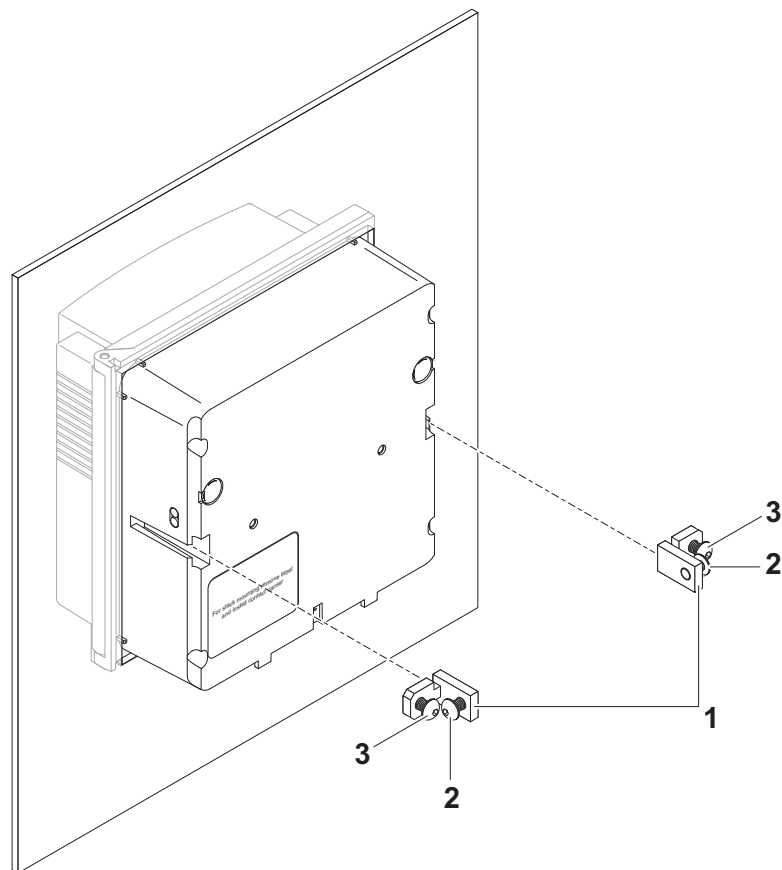

Fig. 3-20 Mounting the Universal Transmitter in the panel
2	Slightly unscrew the screws (pos. 2 and 3) of the two angle brackets (pos. 1 in Fig. 3-20), but do not remove them.
3	Push in the two angle brackets - as shown in Fig. 3-20 - into the lateral guides of the Universal Transmitter up to the stop.